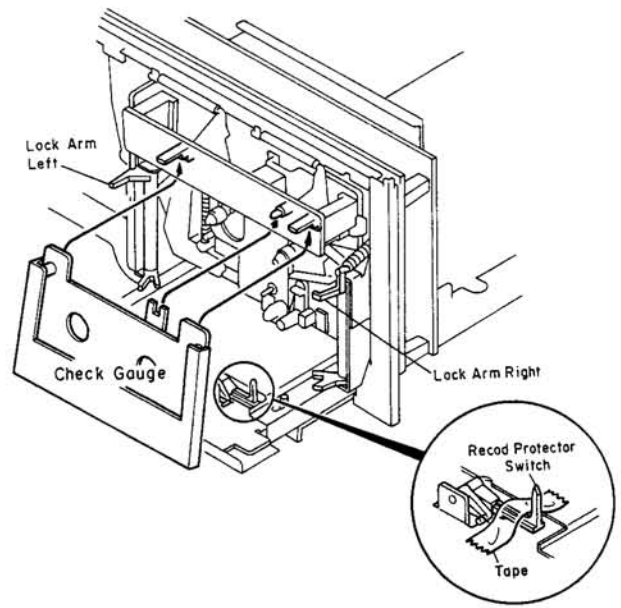

Fig. 2.2
(2) How to Load a Gauge
- (a) Tape the Record Protector switch as shown in Fig. 2.2 to allow easy loading of a Gauge.
(3) After Adjustment